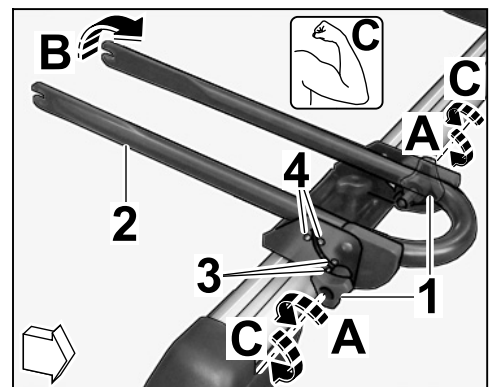

Figure 28
6.2.1 Loosen the two T-screws slightly at the sides (⇒ Figure 28 -A-).
6.2.2 Fold the fork of the front wheel holder straight up (⇒ *Figure 28-B-*).
6.2.3 Tighten the two T-screws at the sides (⇒ *Figure 28-C-*).